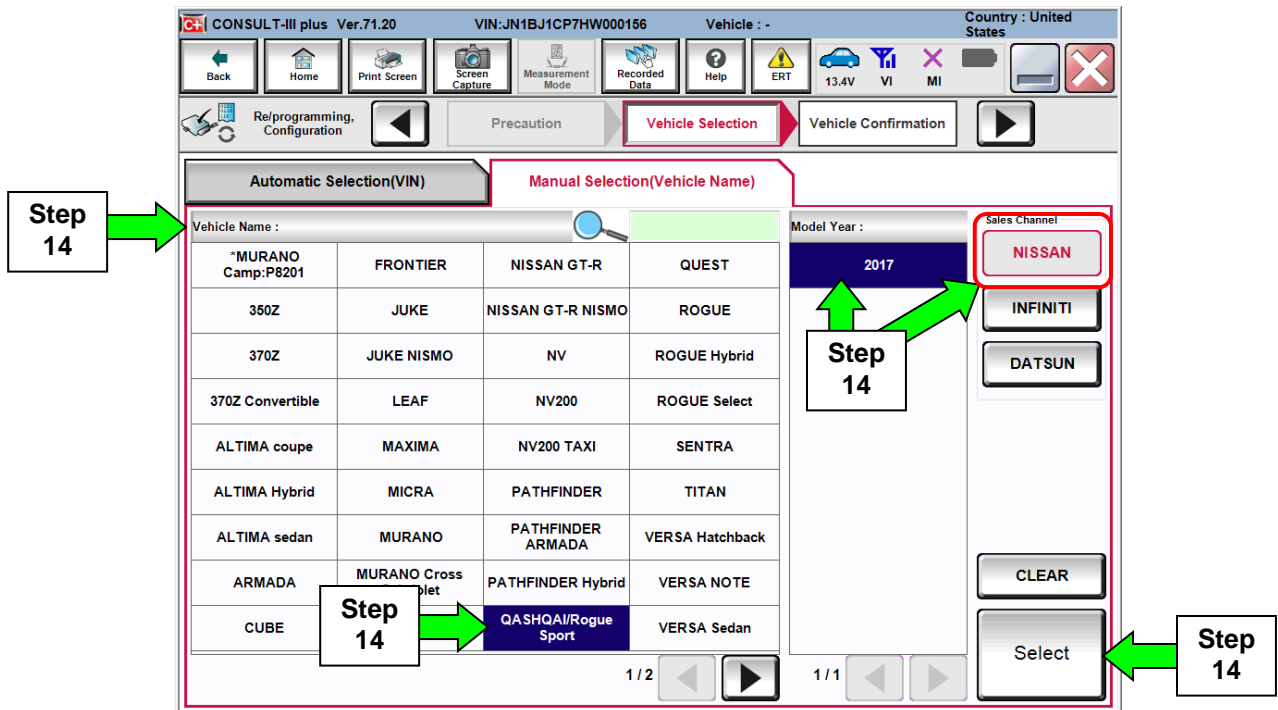

Figure 4
- If the screen in Figure 4 does not display, then **Automatic Selection(VIN)** tab was selected, skip to step 15.